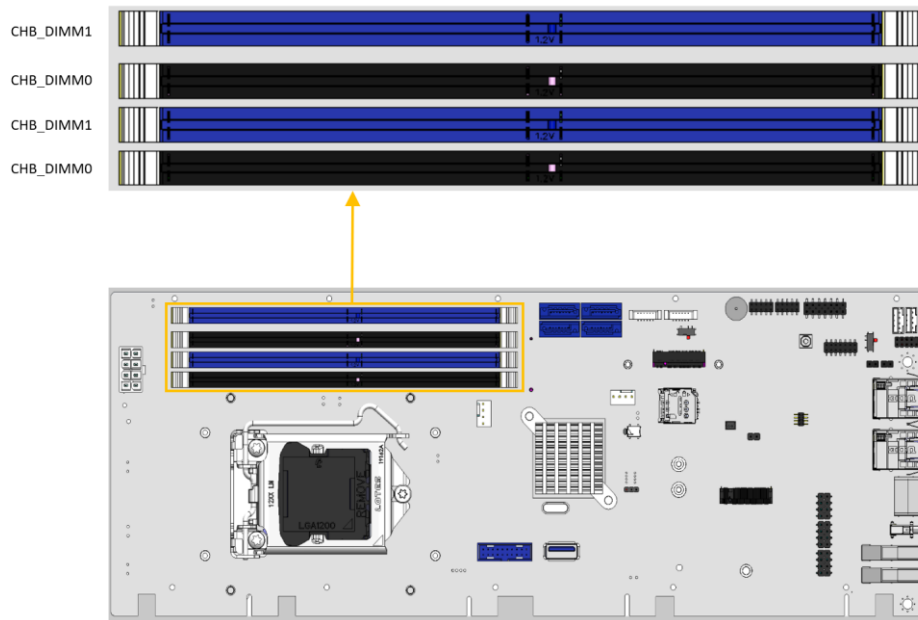

Figure 3-18: DDR4 DIMM Socket Locations
- CN Location:** See Figure 3-18